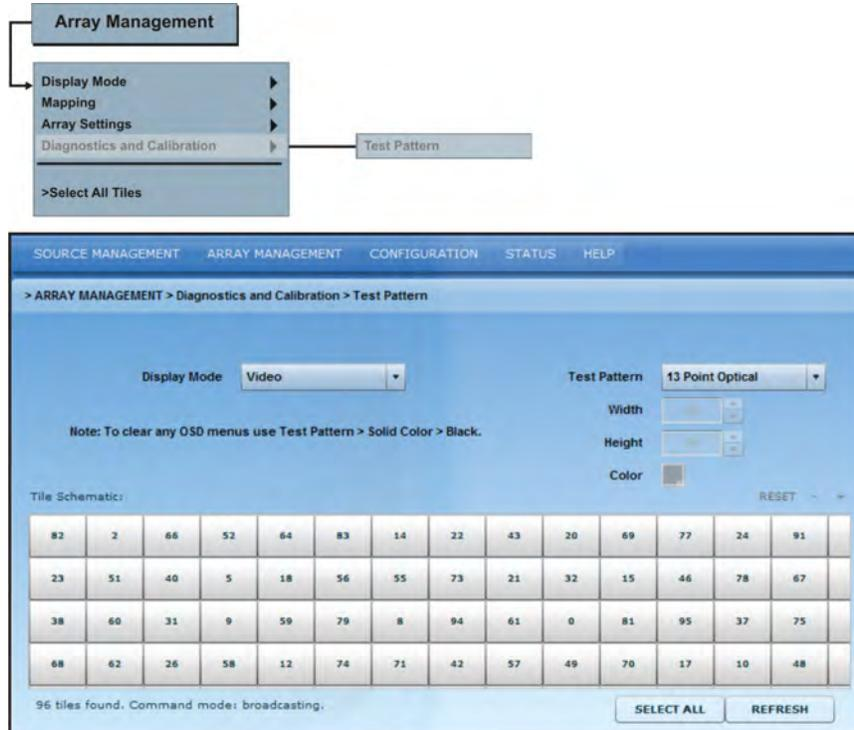

Figure 3-28 Diagnostics and Calibration>Test Pattern
The Test Pattern screen (Figure 3-28) enables users to select from a list of test patterns used for troubleshooting and setup purposes. Certain test patterns are ideal for certain procedures. For instance, the **13 Point Optical** test pattern is ideal for setting up focus.
1. From the **Array Management** drop-down menu, select **Diagnostics and Calibration>Test Pattern** to access the screen shown in Figure 3-28.